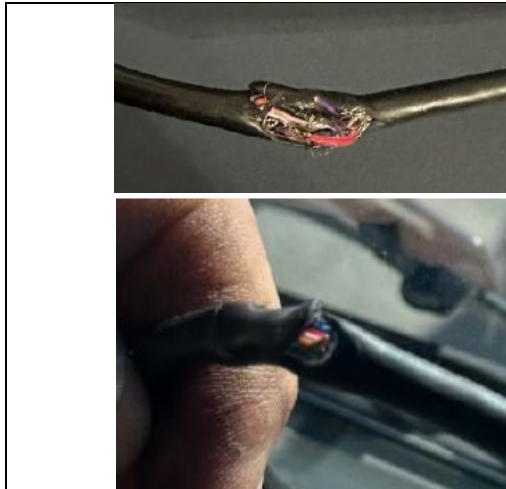

Figure 18
15. Is the Mobileye camera cable damaged? (See examples of cable damage in Figure 18.)